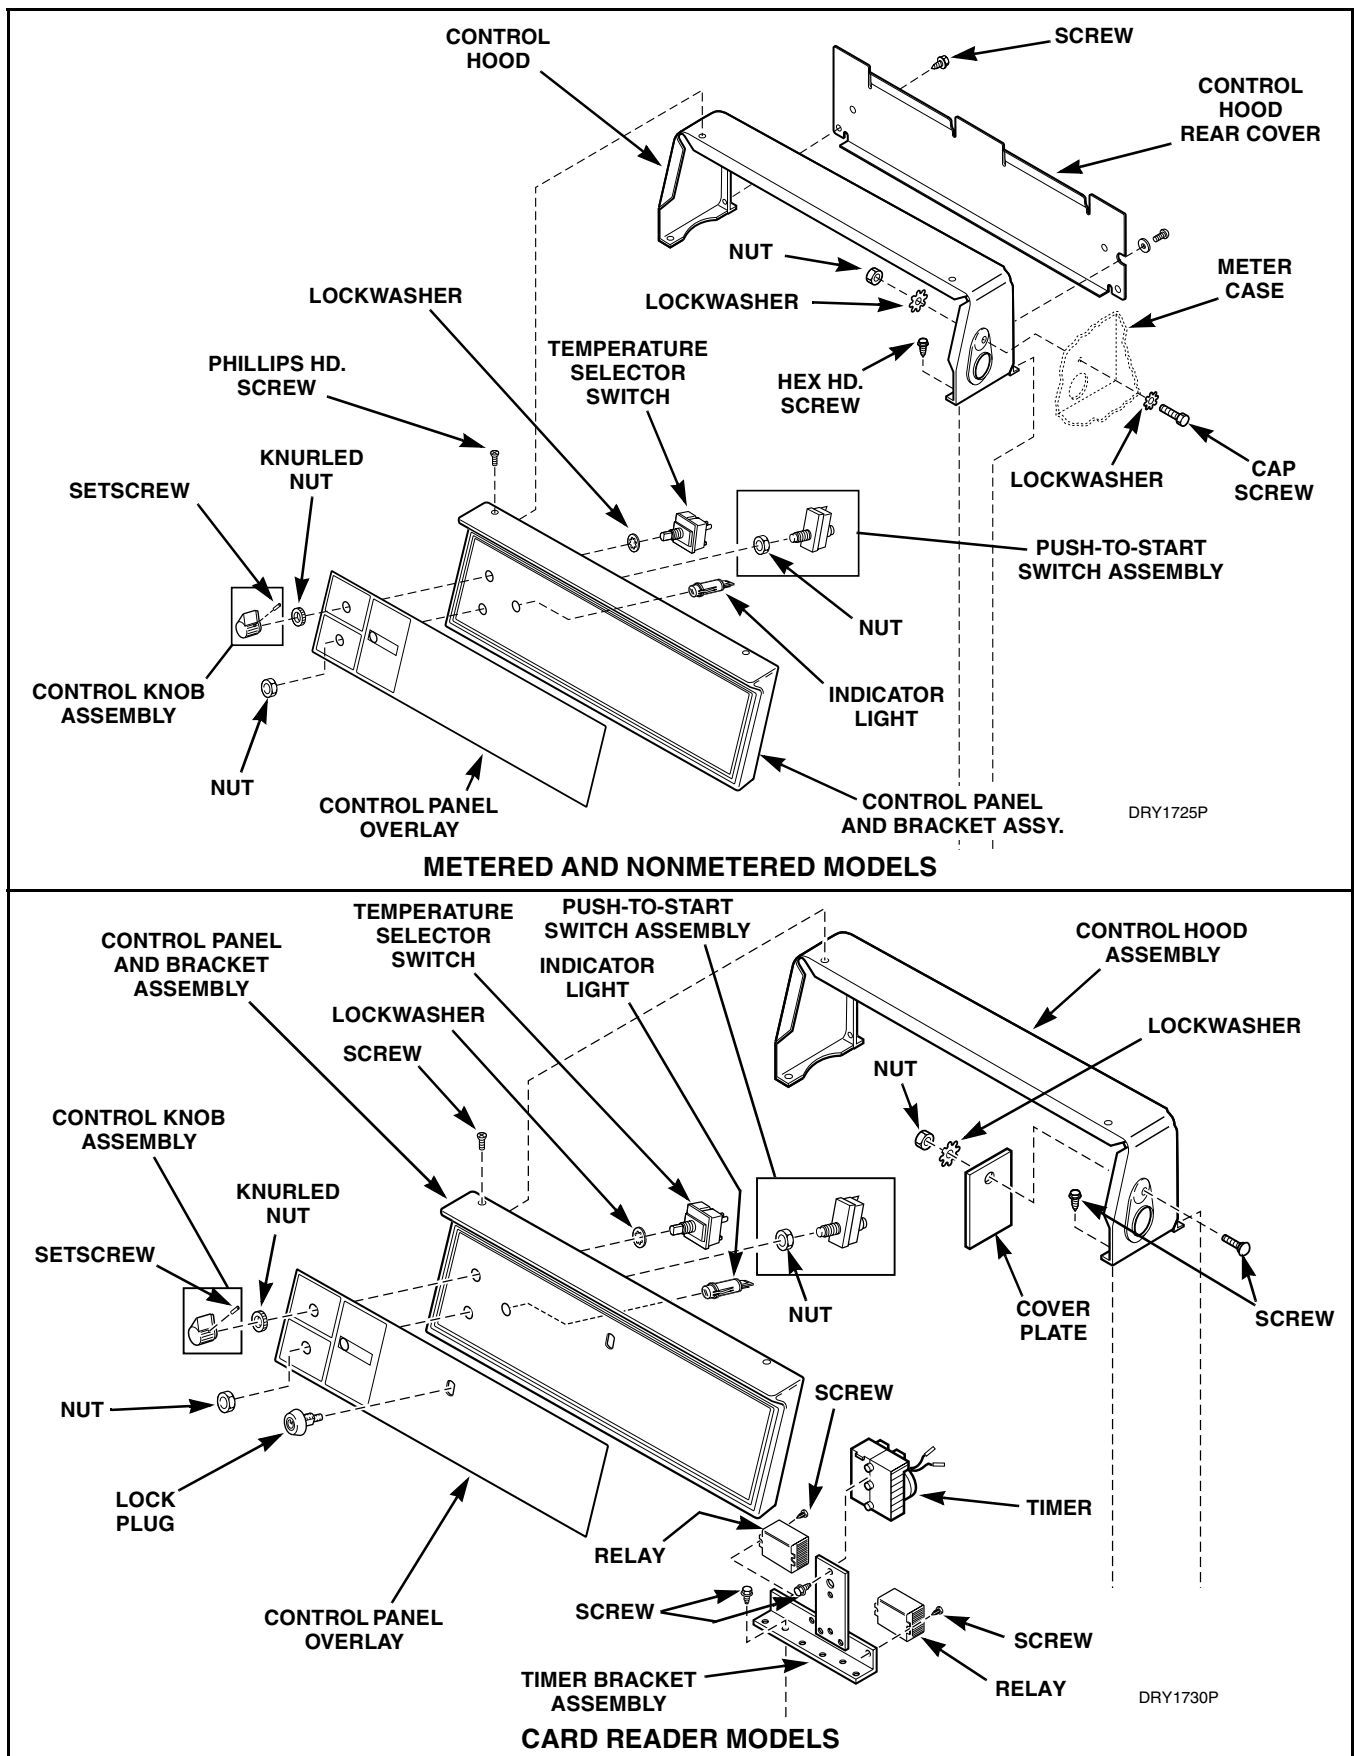
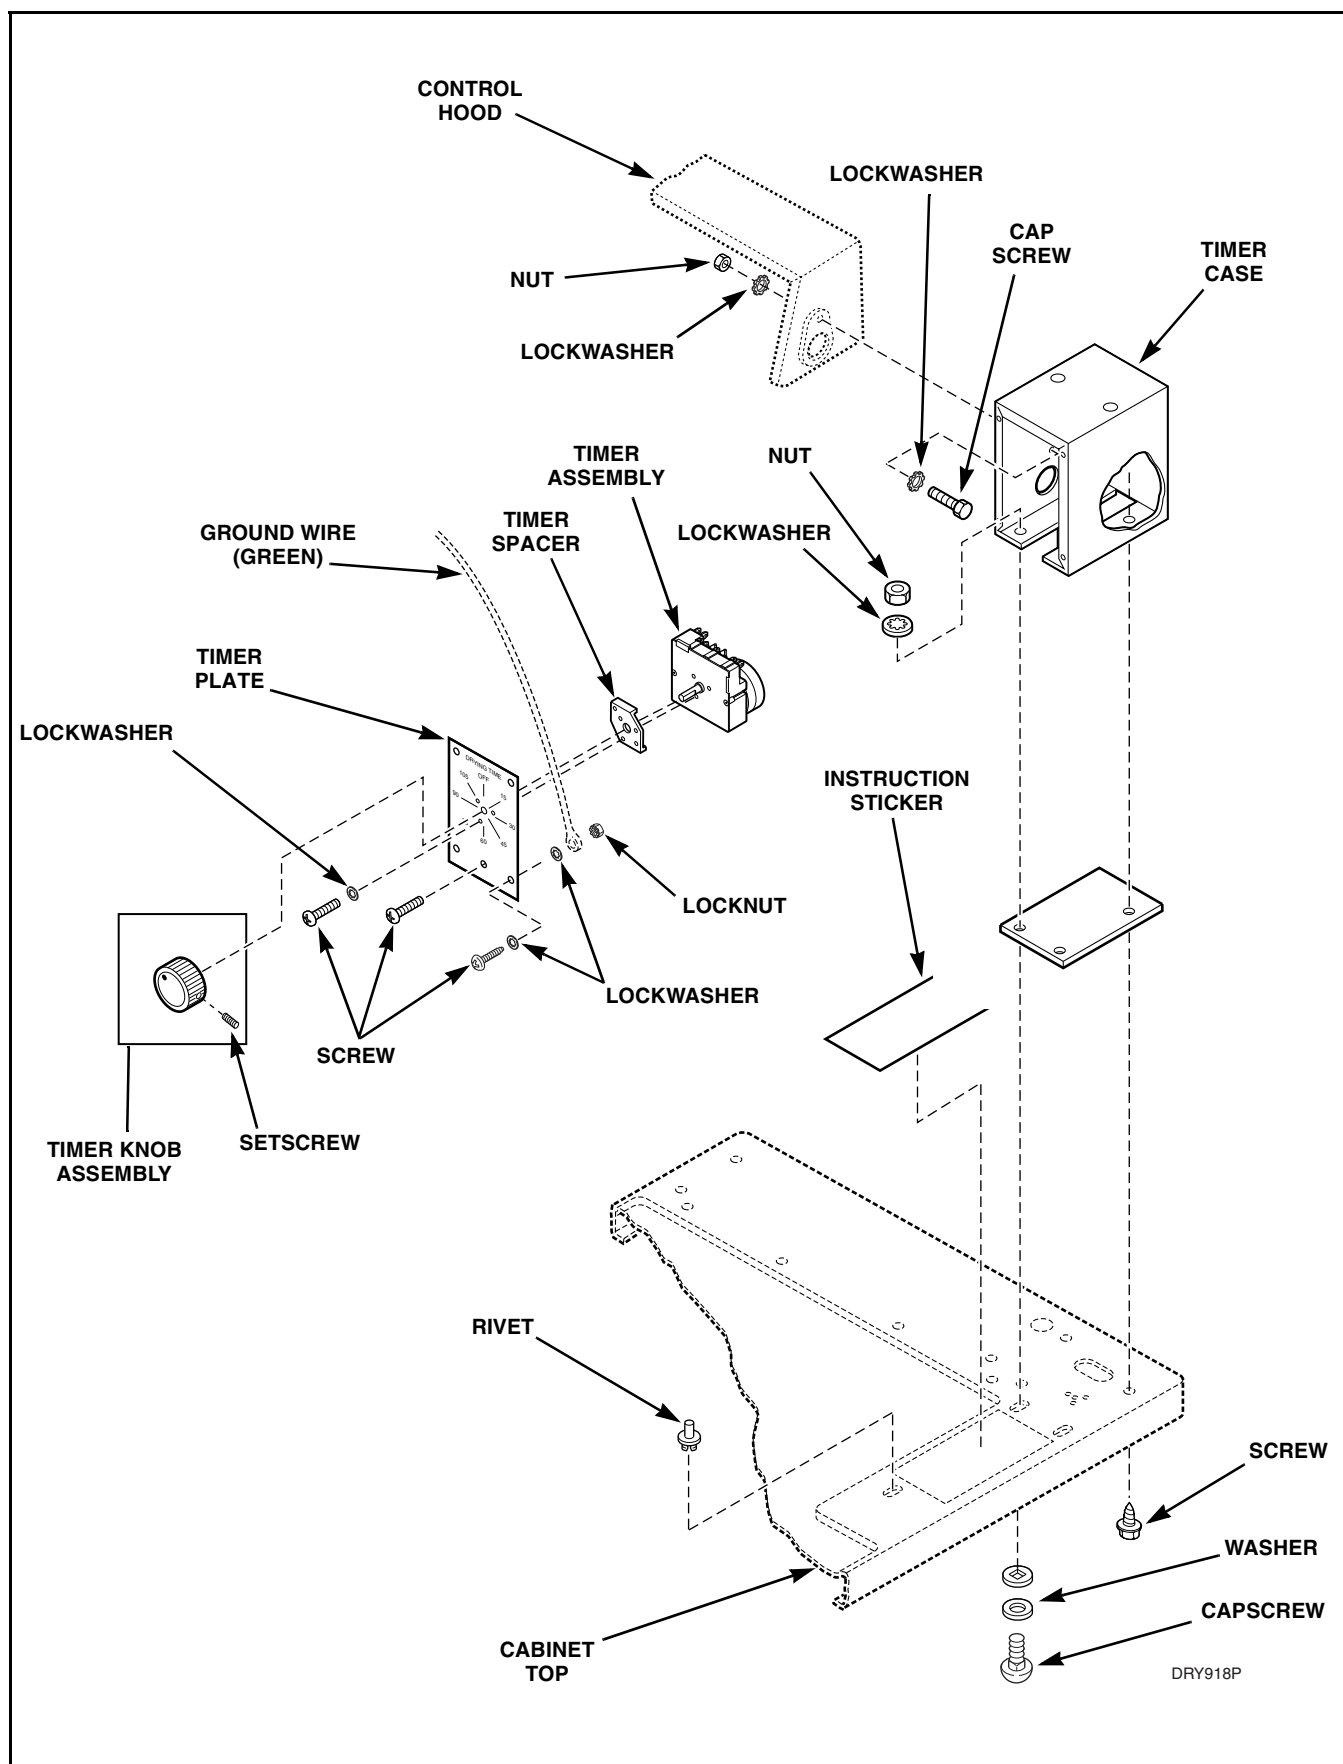
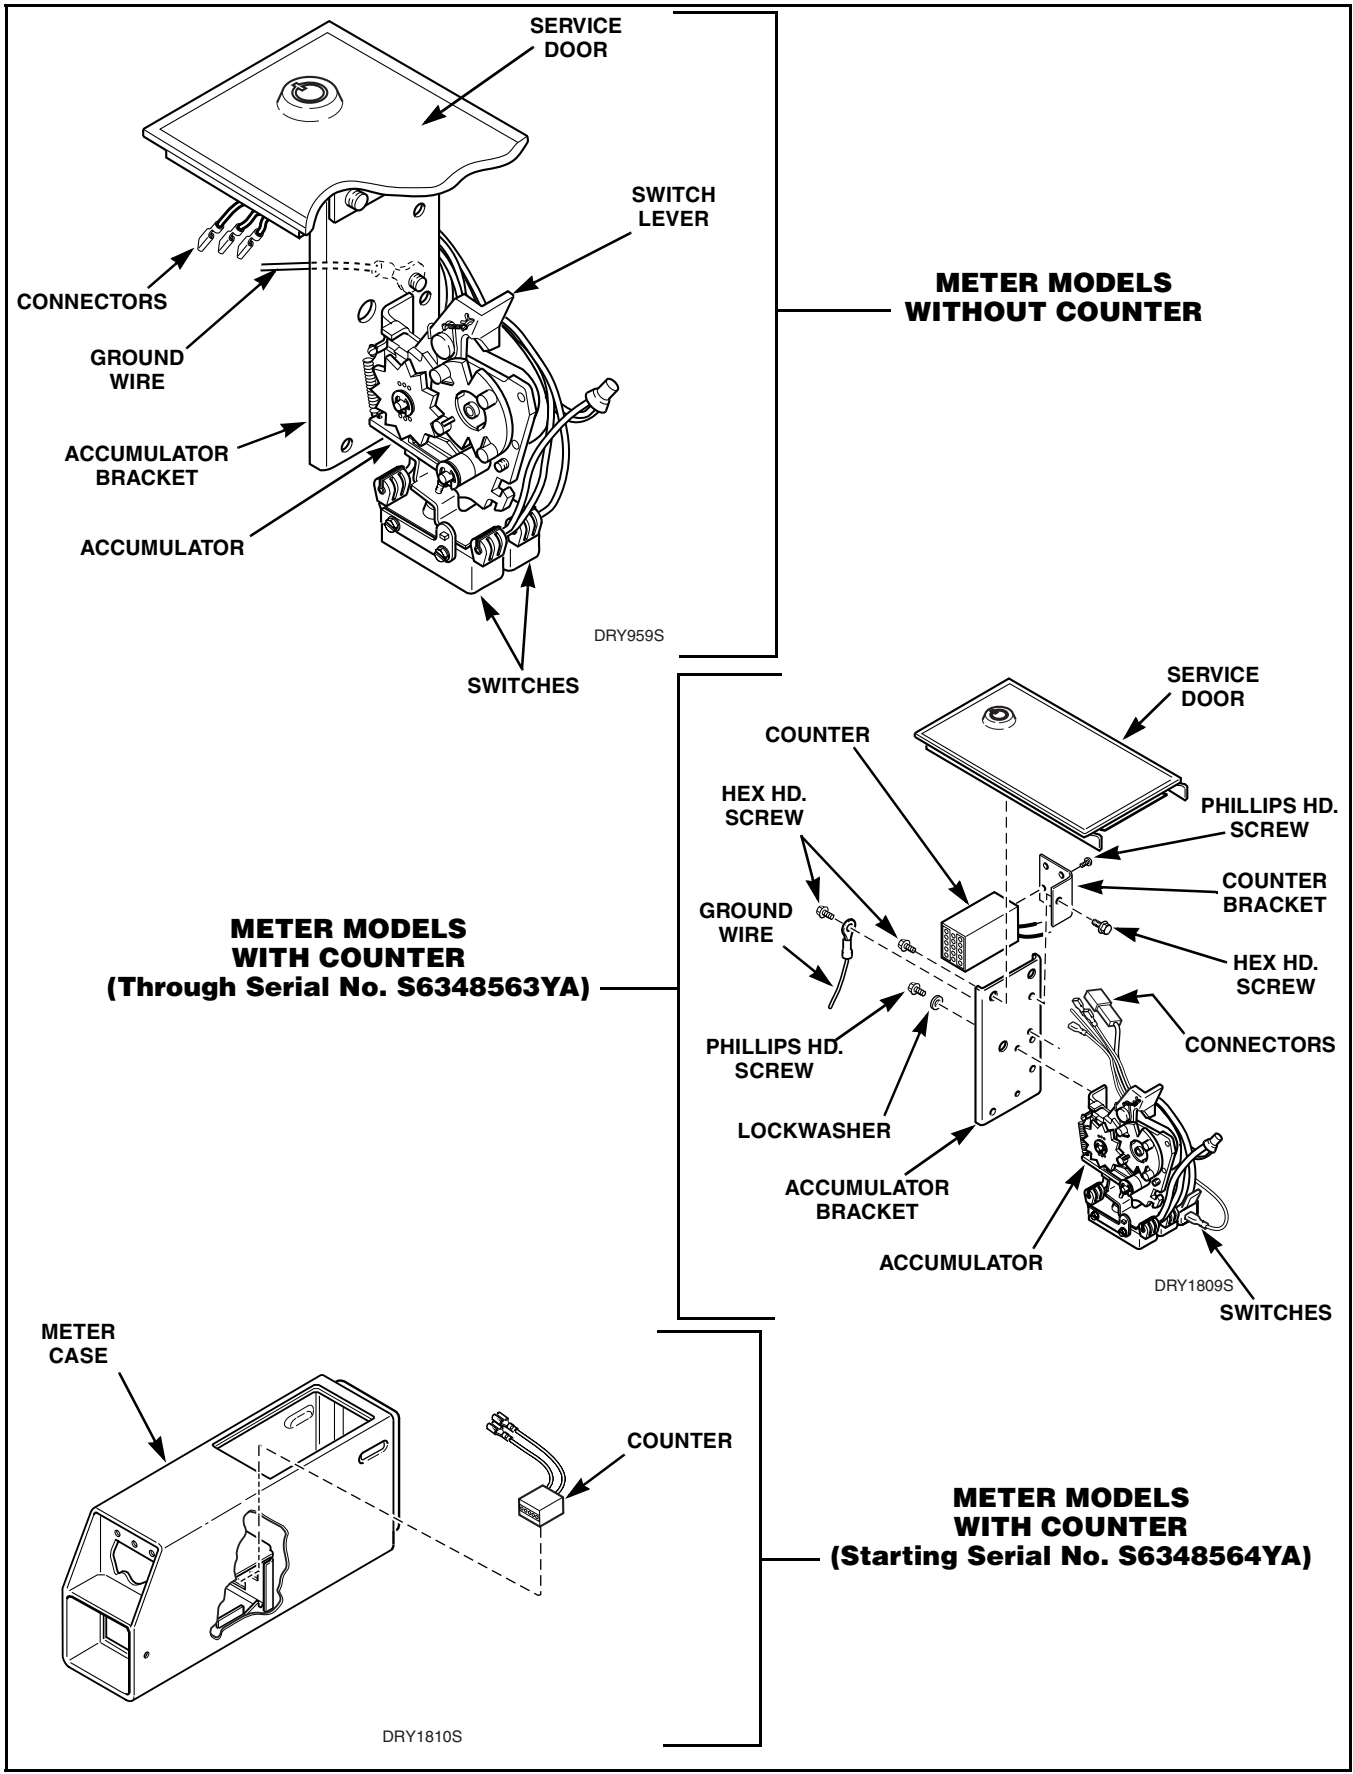

Figure 7
Figure 8
Figure 10
Refer to *Figure 7*.
- (1) Refer to *Figure 7* for timer removal.
- (2) Remove panel lock (if present).
- (3) Remove two control panel attaching screws and lift assembly off cabinet top.
- (4) Remove two screws holding timer to timer bracket.
- (5) Remove ground screw holding ground wire to timer.
- (6) Disconnect wires from timer.
- (1) Refer to *Figure 8* for timer removal.
- (2) Loosen setscrew holding timer knob to timer shaft and remove knob.
- (3) Remove four screws and lockwasher holding timer and plate to timer case.
- (4) Pull timer and plate out of timer case as far as wires will permit.
- (5) Remove screw, lockwasher and locknut holding ground wires to timer.
- (7) Remove three screws and lockwasher holding timer to plate.
1. Remove four screws and lockwashers holding timer and plate to timer case. Refer to *Figure 8*.
2. Pull timer plate out of timer case as far as wires will permit. Refer to *Figure 8*.
3. Remove screw, lockwasher and locknut holding ground wires from timer. Refer to *Figure 8*.
4. Disconnect wires from timer, except timer motor. Refer to *Figure 8*.
- a. Remove two control panel attaching screws and lift assembly off cabinet top. Refer to *Figure 7*.
- c. **Metered Models.** Refer to *Figure 10*.
- (1) Insert key in service door lock on top of meter case and unlock door.
- (2) Lift rear end of service door approximately 45° off meter case to disengage notched tabs with internal rib at top of meter case.
- d. **Non-metered Models.** Refer to *Figure 8*.
- (1) Remove four screws and lockwasher holding timer and plate to timer case.
- (2) Pull timer and plate out of timer case as far as wires will permit.
- e. Remove cap screw holding control hood to meter case. Refer to *Figure 7*.
- f. Remove two screws holding control hood to cabinet top and lift hood off rear tabs. Refer to *Figure 7*.
Refer to *Figure 10*.
- c. Insert key in service door lock on top of meter case and unlock door. Refer to *Figure 10*.
- e. Disconnect accumulator wires at connectors. Refer to *Figure 10*.
- f. Remove hex head ground screws holding green ground wire to accumulator mounting bracket. Refer to *Figure 10*.